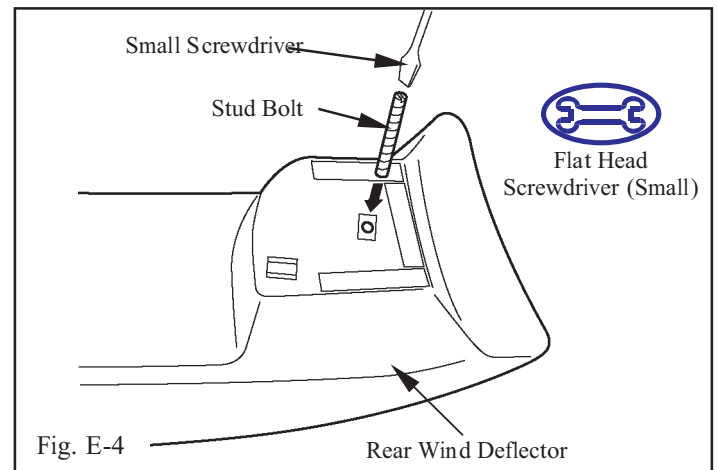

Fig. E-4
5. Install stud bolts to threaded holes on Rear Wind Deflector, and tighten. (Fig. E-4).